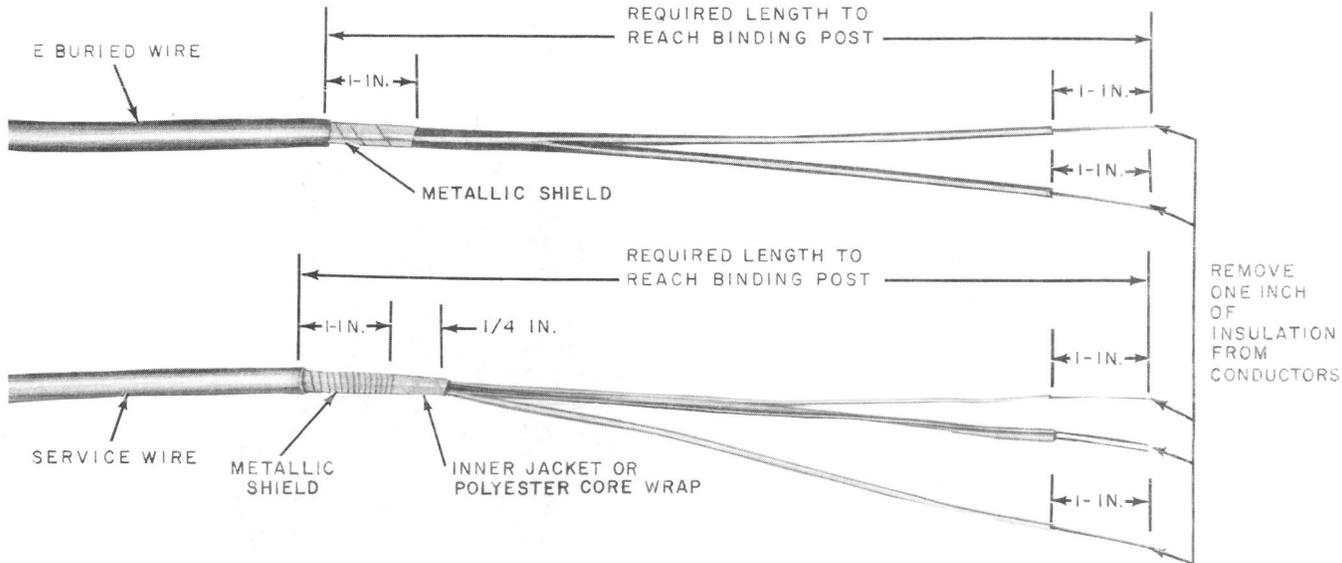
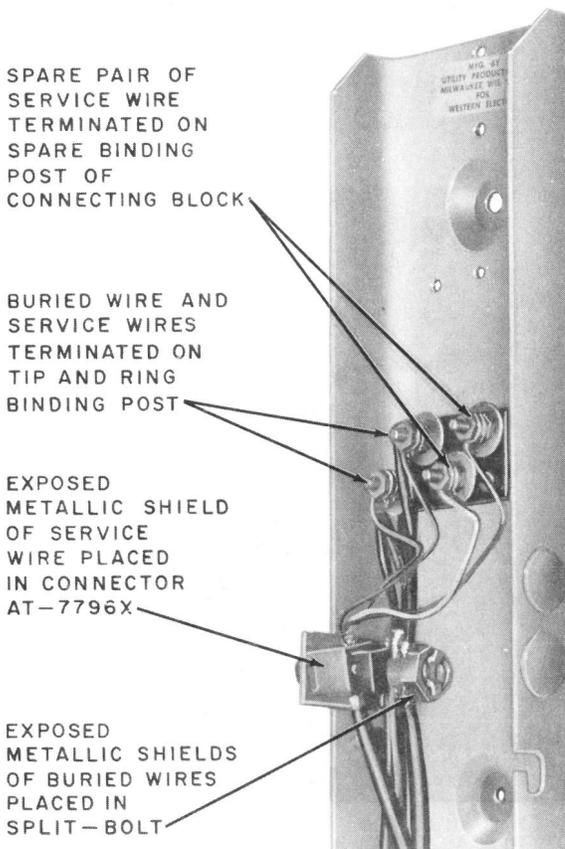

Fig. 23—Prepared Service Wire—D or E Buried Wire Terminal
Fig. 24—Service Wire Terminated—D or E Buried Wire Terminal
6.02 ♦The termination of service wire in either the D or E buried wire terminal is identical. Prepare the service wire as shown in Fig. 23 and terminate as shown in Fig. 24.♦